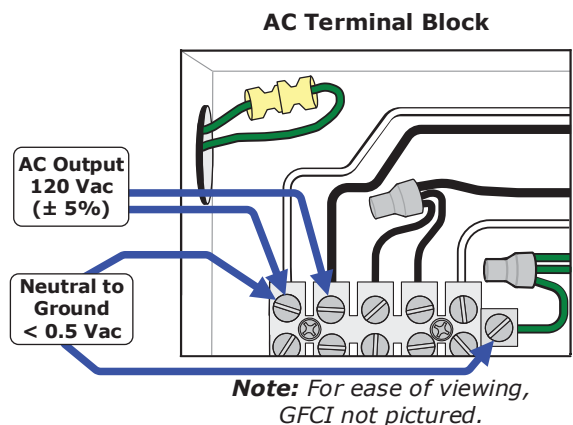

Figure 2-26, AC Voltage Checks (MS2012-G model)
5. Check the AC output voltage of the inverter by connecting an AC voltmeter to the output terminals as shown in Figures 2-26 or 2-27 (verify the correct output voltages).